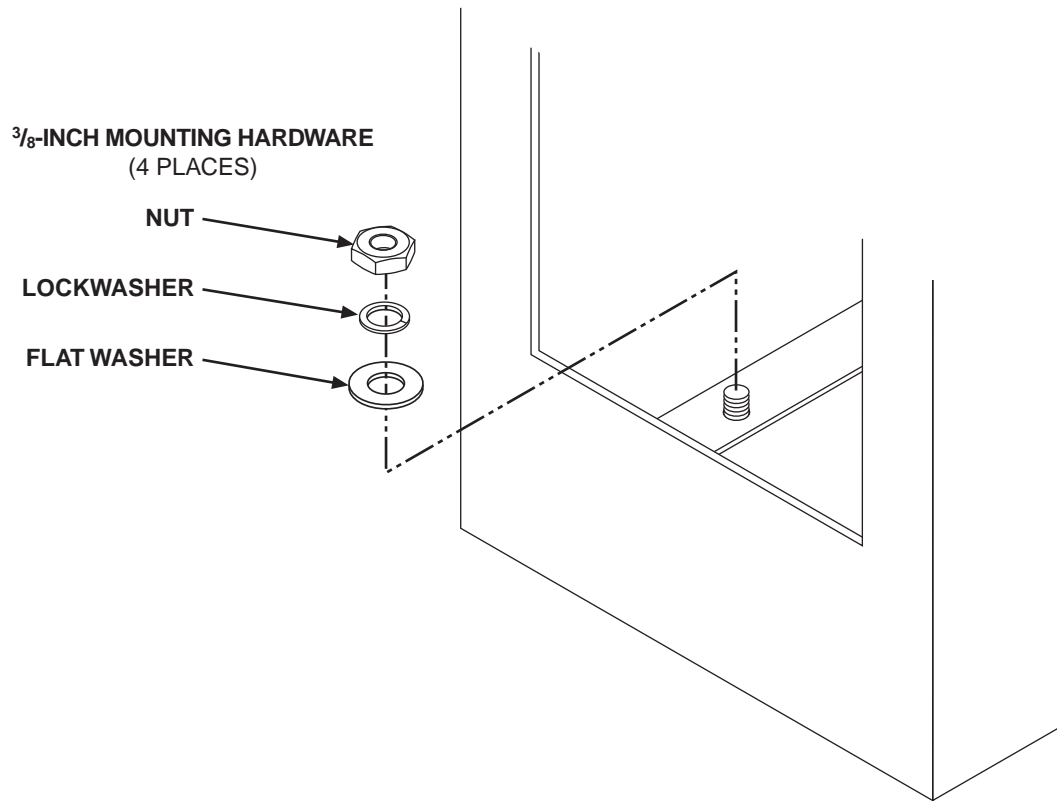

Figure 2-6. Installing base mounting hardware
12. Secure the pedestal in position using $\frac{3}{8}$ -inch mounting hardware (see figure 2-6).